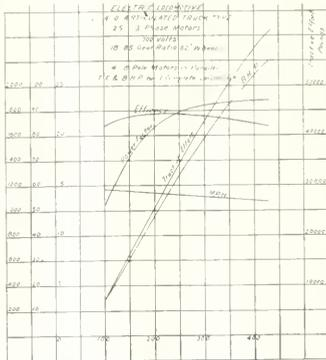
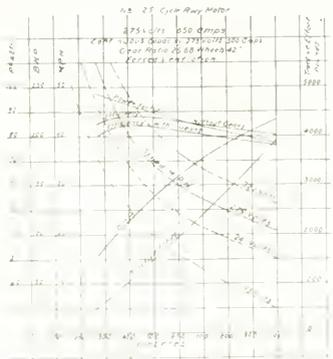

FIG. 1.—CHARACTERISTIC CURVES FOR A 3-PHASE LOCOMOTIVE WITH MOTORS CONNECTED FOR SLOW SPEED.
FIG. 2.—CHARACTERISTIC CURVES FOR A 3-PHASE LOCOMOTIVE WITH MOTORS CONNECTED FOR HIGH SPEED.
All of the characteristic curves are laid out on the same basis so that one particular set can be referred to and the remarks in general will apply to all. We have taken the set shown in Fig. 1 for explanation, which are the characteristic curves for a direct current locomotive to operate on 2,400 volts. It will be noted that all of the curves, namely efficiency, miles per hour, brake horsepower, tractive effort are all plotted as ordinates with the current as a base. This arrangement is especially convenient, for by it the speed, tractive effort, etc., can be easily determined for any change of load.
When referring to a set of these curves, the various scales used should be carefully noted. To show how a set of curves is used, we shall assume that the locomotive under consideration (Fig. 1) is used for coast service, that it is equipped with two motors geared 1) (2) in, drivers geared 1) (2) in, a load up a grade at the rate of 27 scales an hour. We should first find out—First How much current is
taken from the overhead trolley wire? Second, How many pounds tractive effort is the locomotive exerting? Third, At what efficiency is it operating? Fourth, What brake horsepower is being exerted? And fifth, How long could the locomotive run under these conditions without the electrical windings exceeding a rise of 60 degs. Cent. above the surrounding air when starting at an initial temperature of 25 degs. Cent. If the locomotive had already reached a constant temperature rise of 60 degs. Cent. how long could this work be handled before an additional rise of 20 degs. Cent. would be exceeded? Referring to the characteristic curve, Fig. 1, the information is obtained as follows:
To better illustrate this, let us take another example. We might desire to know how much tractive effort the locomotive is capable of exerting when running at 20 miles an hour. Referring to Fig. 1 find 20 miles an hour on the scale, project over to the m.p.h. curve and down to the current, corresponding to 255 amperes. This vertical line cuts the T.E. curve at a point, if projected to the right, over to the T.E. scale, which will give 14,000 lbs. T.E.
Figs. 2 and 3 show the characteristic curve of a three phase or split phase locomotive. By the expression "split phase" we mean a locomotive similar to the one operating on the Norfolk & Western Railroad. Current is taken from only one overhead wire and thus is single phase current, but it is changed to three phase on the locomotive itself so that three phase motors are used, giving the constant speed characteristic. Two curves are shown as the motors are generally so designed that the number of poles can be changed (at the will of the motorman). That is, the motors may be operating as 4-pole machines or as 8-pole machines. The revolutions of the armature, hence the speed of the locomotive is twice as great with the 4-pole combination as with the 8-pole combination. The locomotive has therefore two constant speeds, one
Fig. 1 is a vertical section taken through one of a fire box and showing the application of the device. Fig. 2 is a sectional view through the inside sheet, and showing the connection of one of the stay bolts therewith. It will thus be seen the tubular projection in the sheet forms an enlarged, inwardly flaring space between the bolt and the walls of the opening. The outer extremities of the tubular projection are plane surfaced to provide seats against which bear heads are formed upon the outer ends of the bolts. The tubular portion may also provide for the use of a plastic or of other yielding material, if desired, and permits relative movement between the bolt and shell or plate, and the portion of the tubular projection which is to partake by means of a bearing surface of resiliency inherent therein. It will thus be understood that the tubular projection is finished and the outer extremities are internally threaded. The tubular portion of the bolt when